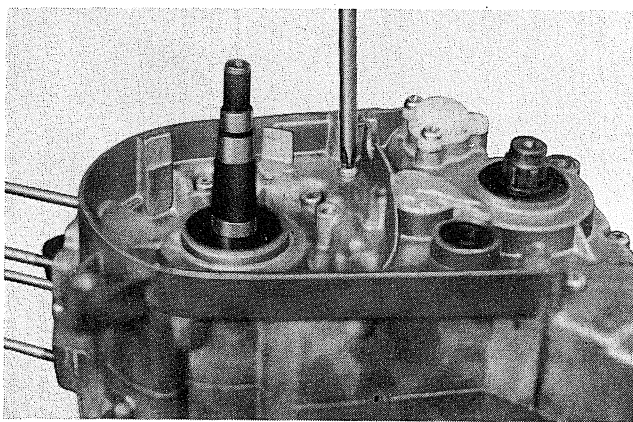

Fig. 3-14-1
1) Remove the pan-head screw from the left side half of the crankcase. (Fig. 3-14-1)